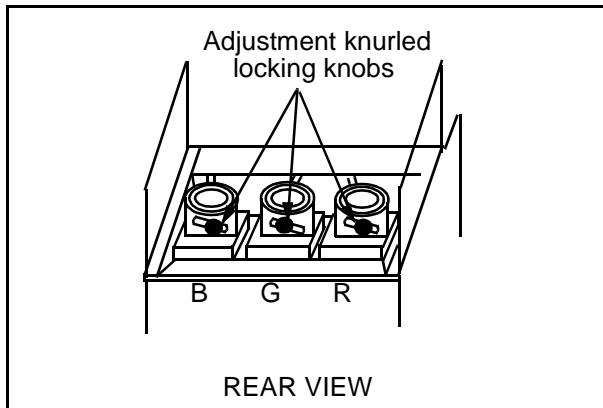

Figure 25. **Optical Lens focus Adjustment**
1. Optical focus adjustment is located on the top of each CRT lens system. Loosen the adjustment knurled locking knob. (Figure 25)